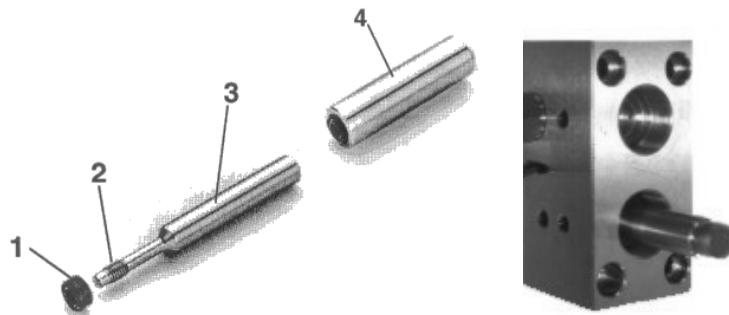

Fig. 3. Tool for taking out old seal. Piston seal (1), thread (2), shaft (3) and setting sleeve (4).
3. Remove old seal using special tool as shown in Fig. 3. Place the shaft in the pump head; screw the tool in old seal and with the thread of the tool pull out gently the old seal.